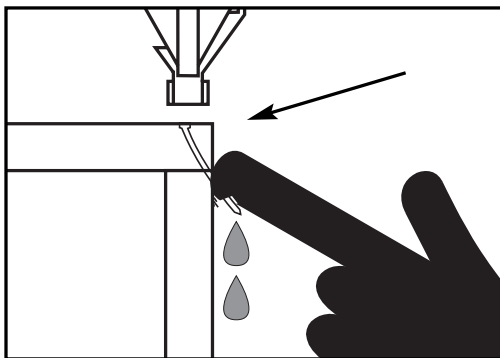

Figure 3. Example of nail deflection.
3. Before pressing the trigger, make sure your free hand is positioned out of the way of a potential path of a nail in case of deflection. (Deflection is caused when the nail changes its path, resulting in the nail puncturing the surface of the workpiece as shown in **Figure 3**.)